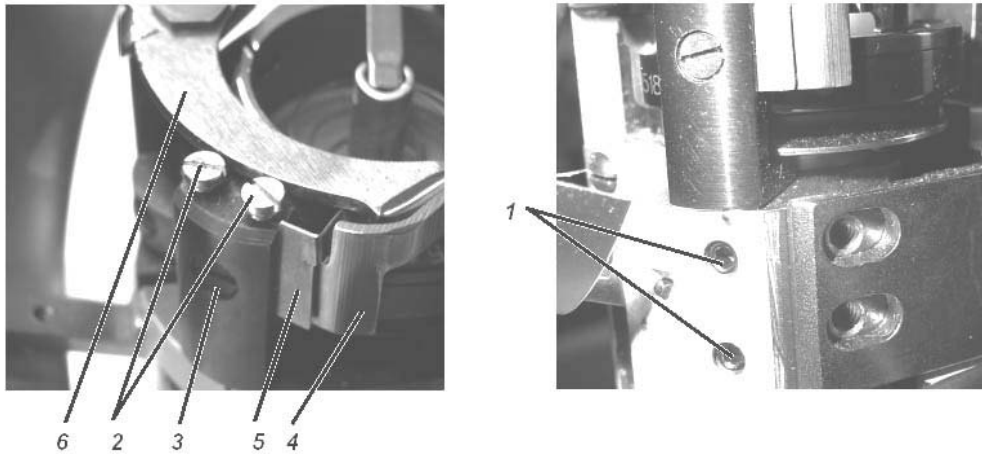

Fig.39
28) Adjusting the fixed knife position and bobbin thread clamping(Fig.39)